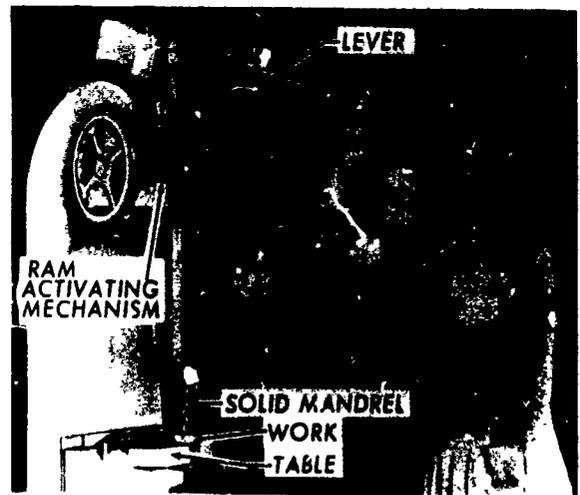

Figure 38. Installing a mandrel with an arbor press.
**3-18. Mandrels.** Mandrels are cylindrical, metal shafts, which are used to hold and drive work. Work having a drilled, bored, reamed, or threaded hole may be mounted on a mandrel when it is necessary to machine the outer surface of the work concentric with the hole; e.g., the outside diameter of a gear which must be concentric to the hole in it in order to run true on the mounting shaft. An *arbor press* is used to press solid, expansion, and eccentric mandrels into the hole, as shown in figure 38. A thin film of white lead on the surfaces of the hole helps to prevent galling.